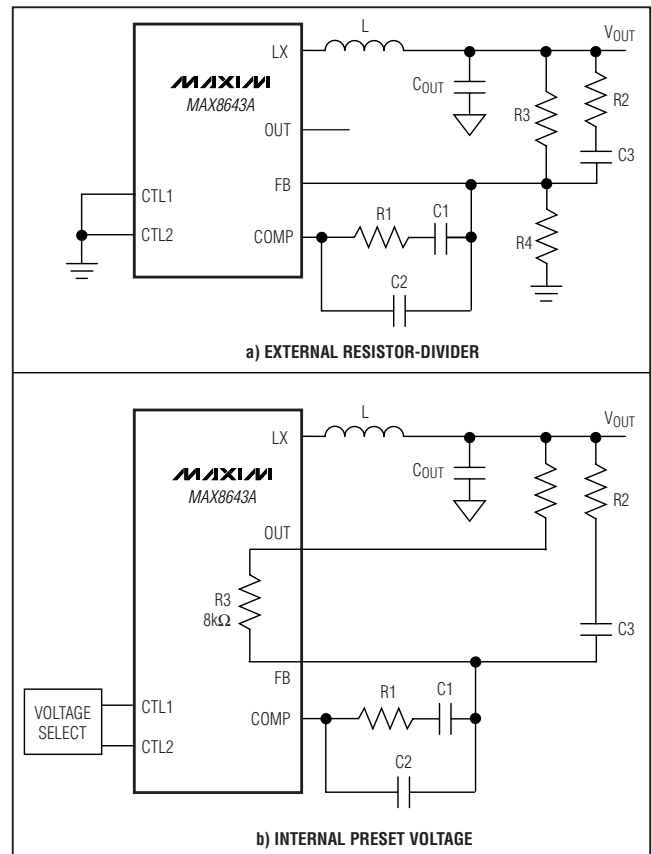
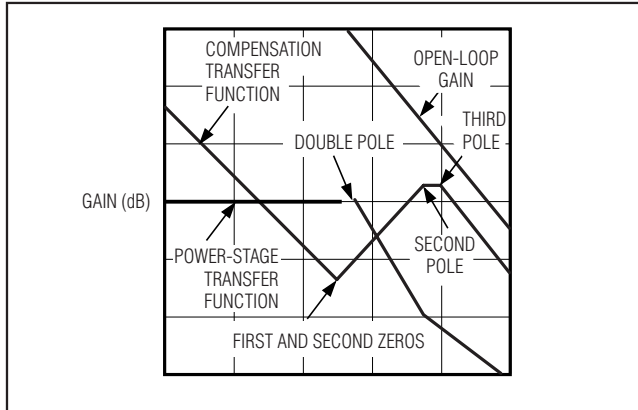

Figure 3. Type III Compensation Network
Figure 4. Type III Compensation Illustration
The high switching frequency range of the MAX8643A allows the use of ceramic output capacitors. Since the ESR of ceramic capacitors is typically very low, the frequency of the associated transfer function zero is higher than the unity-gain crossover frequency,  $f_c$ , and the zero cannot be used to compensate for the double pole created by the output filtering inductor and capacitor. The double pole produces a gain drop of 40dB/decade and a phase shift of 180°/decade. The error amplifier must compensate for this gain drop and phase shift to achieve a stable high-bandwidth closed-loop system. Therefore, use type III compensation as shown in Figure 3 and Figure 4. Type III compensation possesses three poles and two zeros with the first pole,  $f_{P1\_EA}$ , located at zero frequency (DC). Locations of other poles and zeros of the type III compensation are given by: